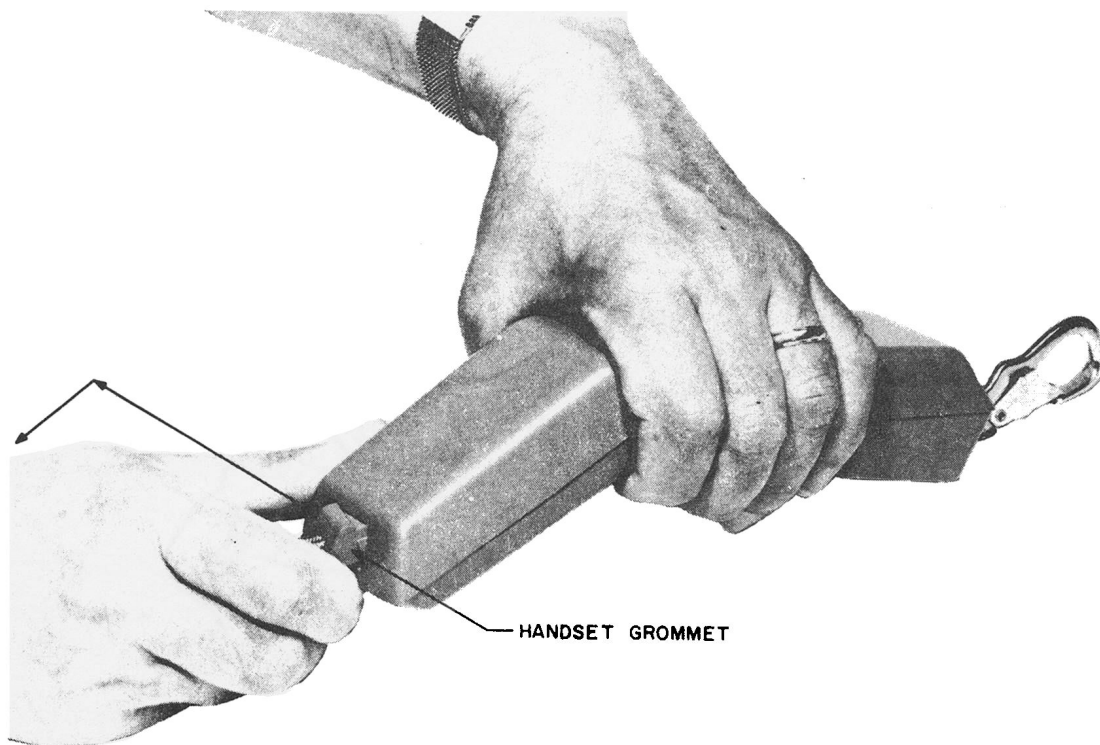
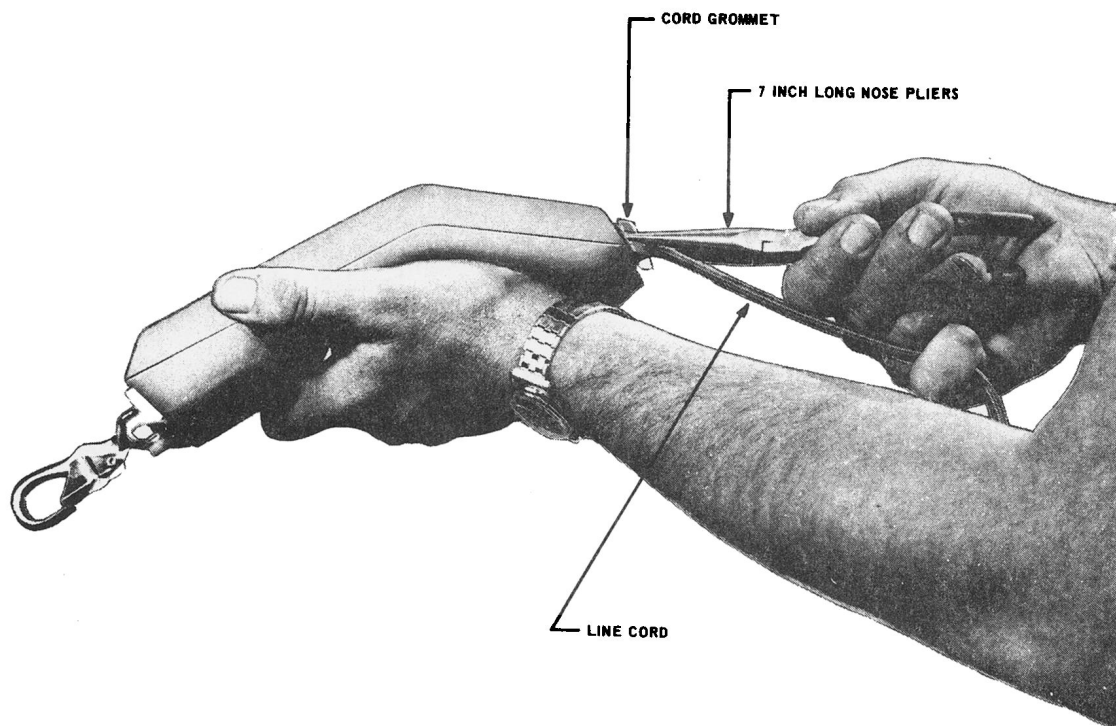

Fig. 10 — Removal of Handset Grommet
Fig. 11 — Alternative Method of Removing Handset Grommet
(1) Turn the handset over so that the dial faces downward.
(2) Push the line cord into the grommet to release the internal pressure of the grommet.
(3) Press the grommet sideways toward the rocker switch and then up in one motion (Fig. 10) to release the grommet from the housing.
(4) If difficulty is experienced, apply a sideways pressure to release one side of the two piece grommet.
(5) Hold the line cord between the third and fourth fingers.
(6) Using 7 inch longnose pliers held in the same hand as the line cord, gently squeeze the grommet and withdraw it from the handset while at the same time pulling on the line cord. (Fig. 11.)
(7) Once the grommet has been withdrawn, two screws are exposed. Loosen these two screws by about three-sixteenths of an inch only, as it is not desirable or necessary to remove them.
(8) Free (do not remove) the two captive screws in the card retainer well.
(9) Loosen the receiver end, then slide the smooth (back) half of the handset housing back to release this section from the slotted screw holes.